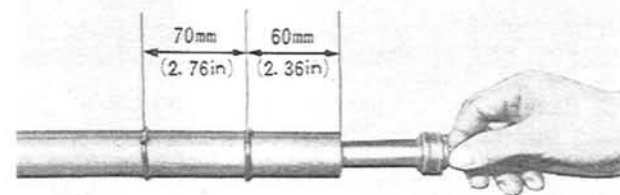

Fig. 13-19 Installing of oil stop rings
9. Install the two oil stop rings onto the bottom side of the pressure tube, as shown in Fig. 13-19.